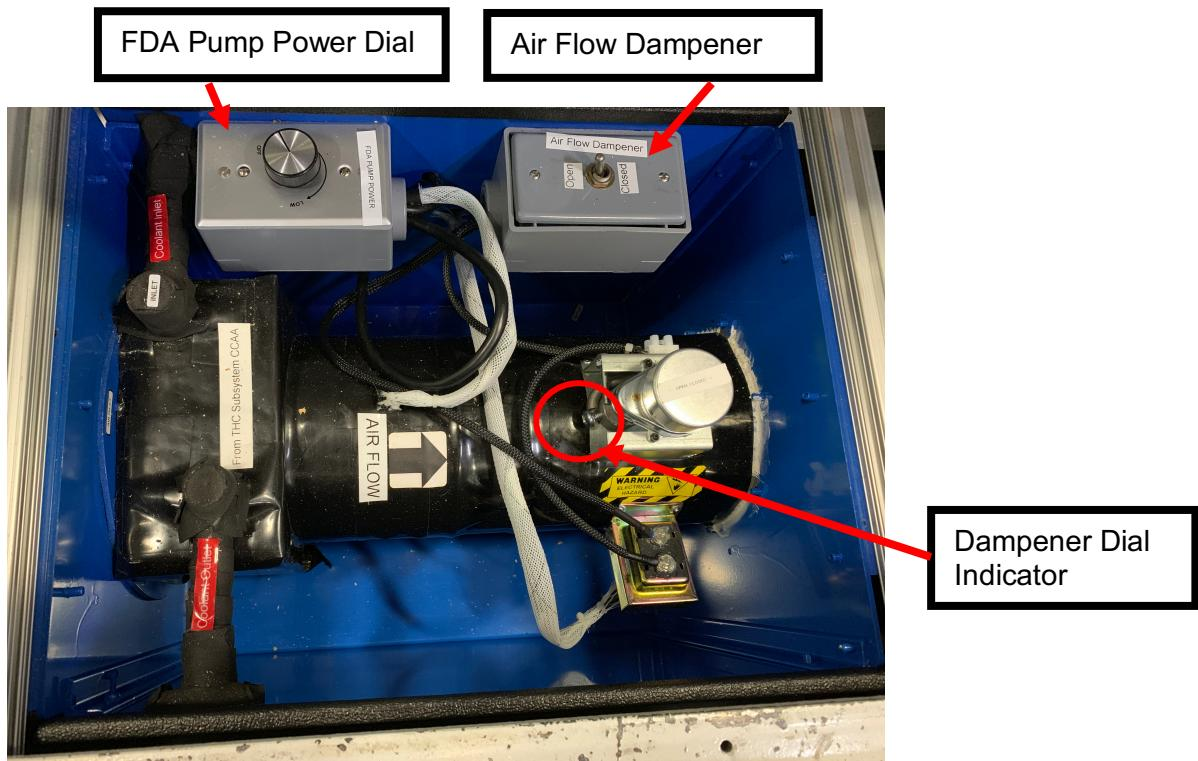

Figure 4: Fan Dampener Assembly (FDA) Pump
- 3.5 Turn FDA Pump Power Dial counterclockwise to “OFF” (see Figure 4). Listen for a click.
- 7.2 Flip Air Flow Dampener switch to “OPEN” (see Figure 4).
- 7.2.1 Check that the Dampener Dial Indicator (metal Philips head screw with spring attached) rotates to fully open (see Figure 4).
- 7.3 Turn FDA Pump Power Dial to “ON” by rotating clockwise. After hearing click, stop rotation. Verify dial is set to “Medium” position (see Figure 4).